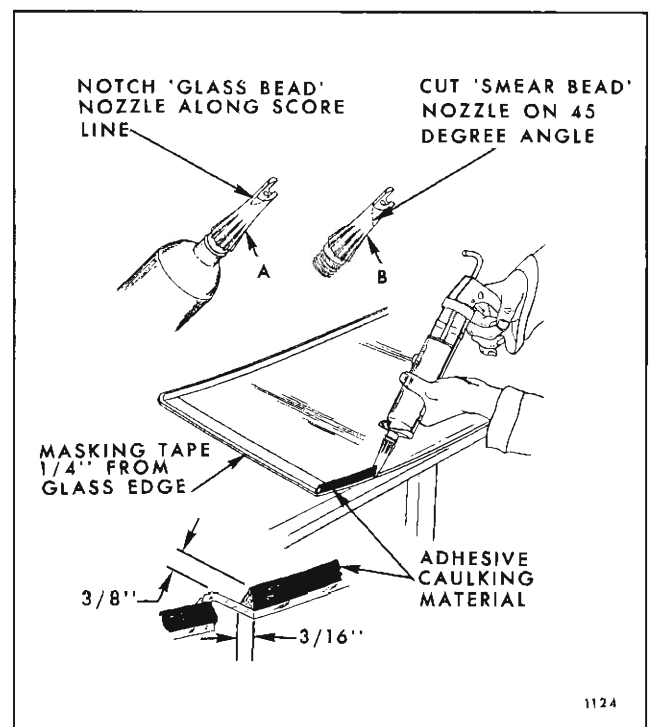

Fig. 1C12—Adhesive Caulking Installation—Extended Method
4. Clean entire inner surface of glass, carefully apply 1" wide masking tape around entire perimeter of inside surface of glass  $1/4"$  inboard from outer edge of glass to eliminate excessive clean-up time after installation (Fig. 1C12).
7. Cut off tip of one nozzle along score line (Fig. 1C12). This nozzle will be used to apply bead of adhesive caulking material to glass. Cut tip off other nozzle at 45° angle 1" below end of nozzle. This nozzle will be used to apply "smear bead" of adhesive caulking material to pinchweld flange.